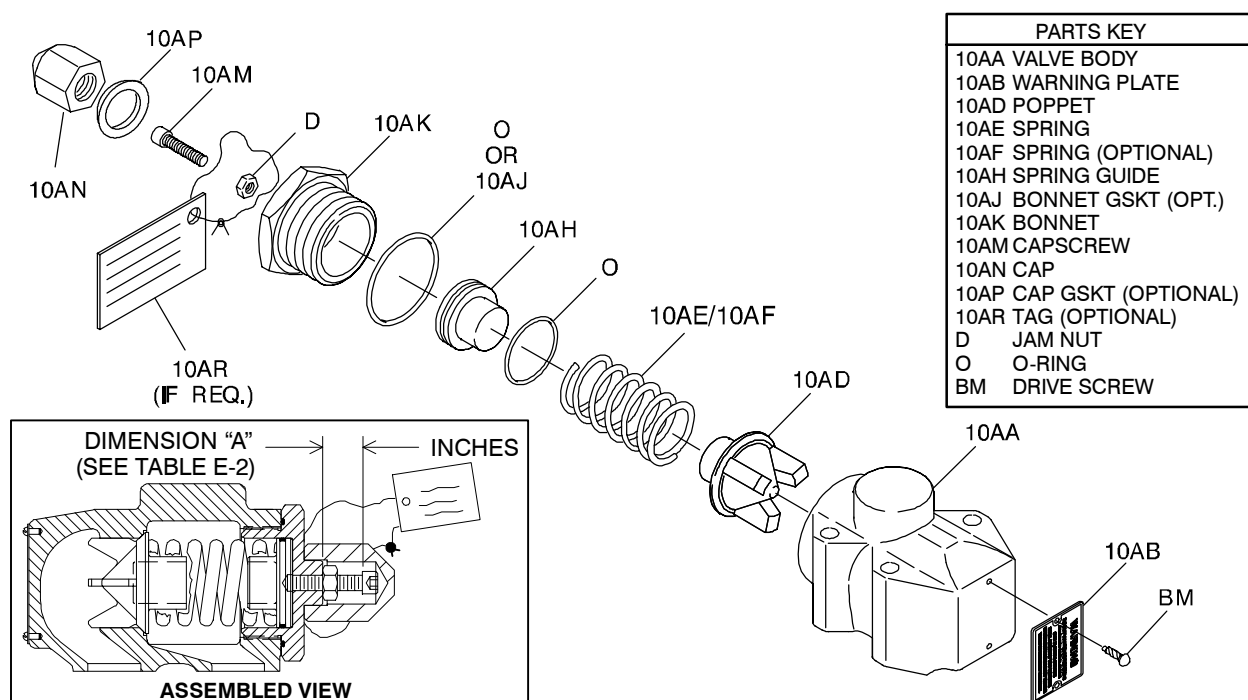

Figure E-7. Pressure Relief Valve Assembly
(Figure E-7)
Install the jam nut (D) on the adjustment capscrew (10AM), and thread the capscrew into the bonnet until the desired height (“A”, Figure E-7) is reached. Refer to the separate Parts List accompanying your pump, and determine the specific hydraulic size. See Table E-2 and adjust the capscrew (10AM) to the proper “A” dimension for desired cracking pressure.